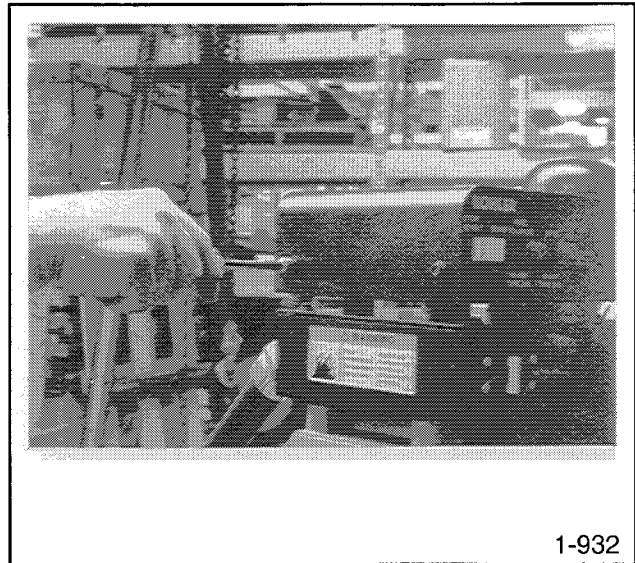

Figure 8-1. Removing the Controller Cover
1. Remove the mounting screws securing the controller cover. Separate the cover from the controller. See Figure 8-1.